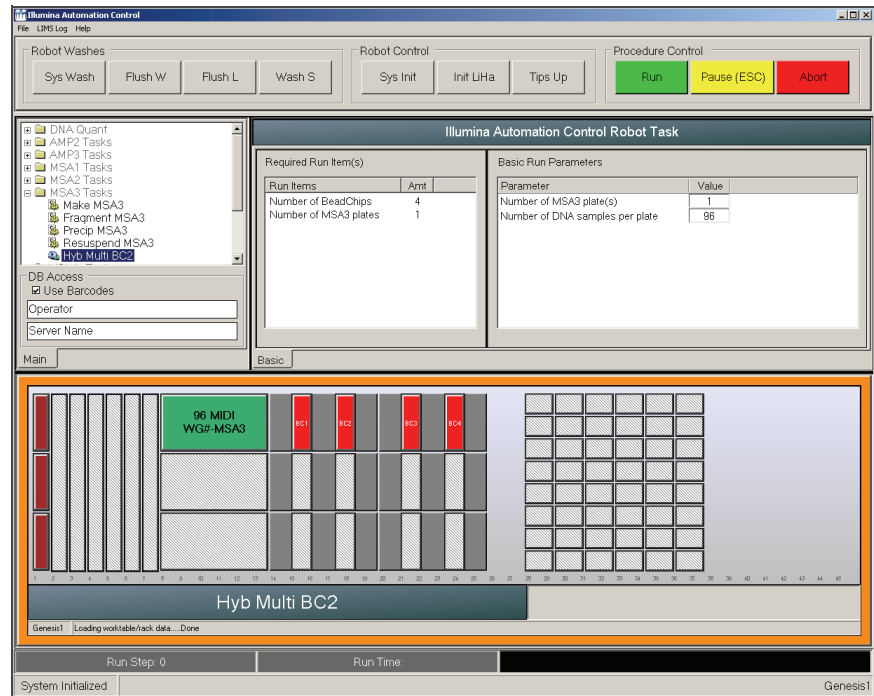

Figure 149 Hyb Multi BC2 Screen
10. Place the Robot BeadChip Alignment Fixtures onto the robot bed according to the bed map (Figure 149).